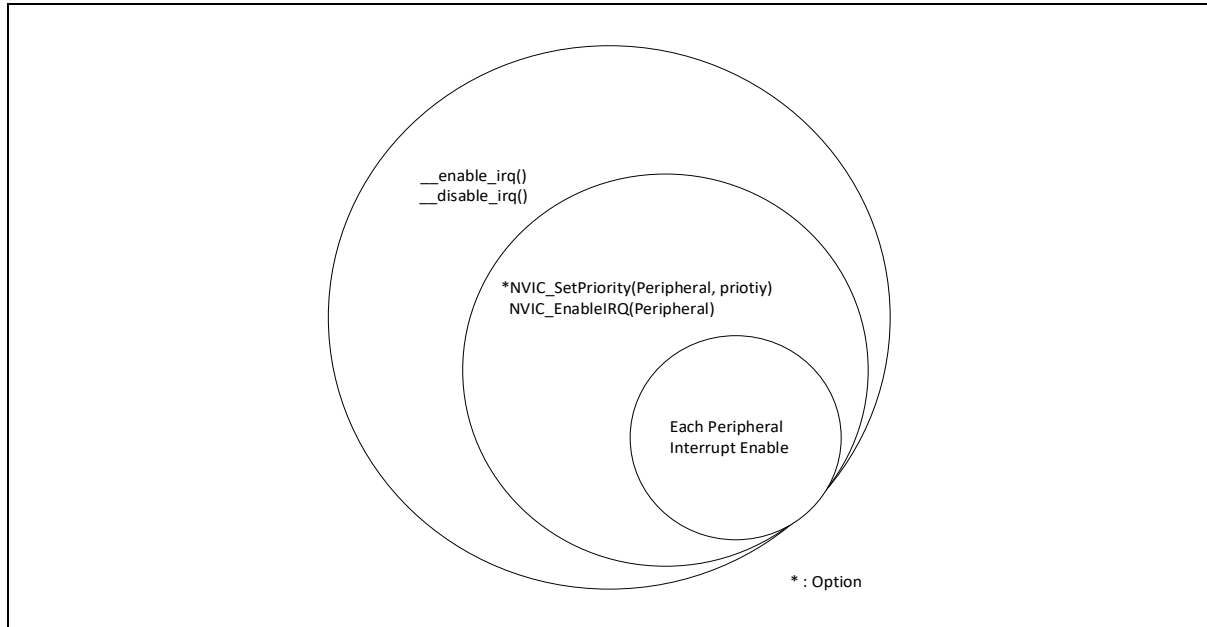

Figure 5. Interrupt Block Diagram
- Figure 5 is a caution when using Peripheral Interrupts. Interrupt don't work if only peripheral interrupts are enabled. Enable the function in core to enable interrupt.